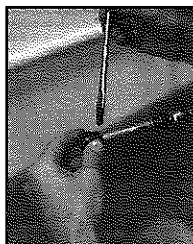

Fig. 52
5. Lightly grease the O-rings and threads on the MRD Lok-Out (Fig. 52). With the Lok-Out open (green sticker exposed), install the Lok-Out into the left side leg with a turning motion. Be careful to avoid damaging the rubber O-rings as you turn them past the threaded portion of the leg. The fit is tight, so SLOWLY twist the Lok-Out as you SLOWLY twist it into the leg.